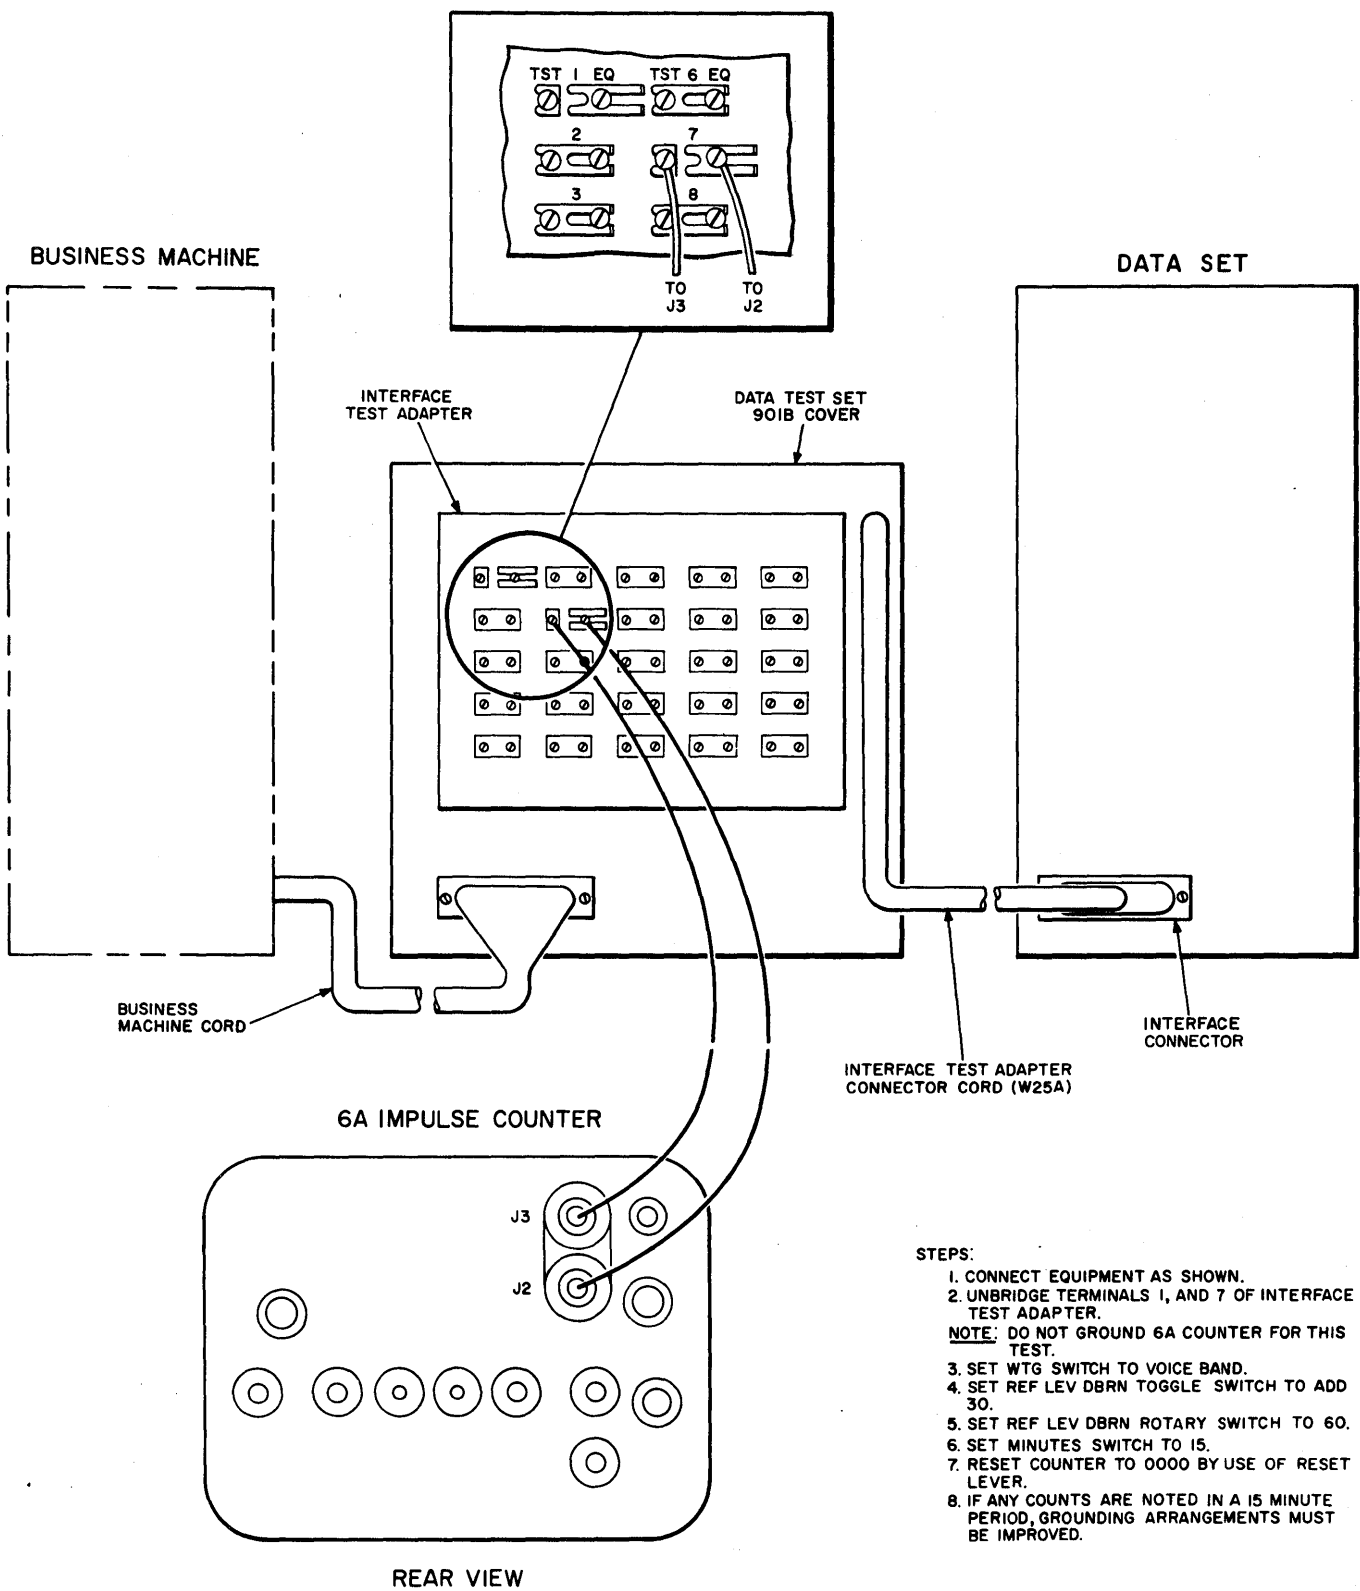

Fig. 1 — Impulse Noise Test Using a 6A Impulse Counter
1.02 This section is reissued to add Fig. 1 and information concerning Data Set 103A2 testing.
2.01 When required (see Section 591-014-200), measure the impulse noise between the data set ground and the business machine ground using a 6A Impulse Counter as shown in Fig. 1.